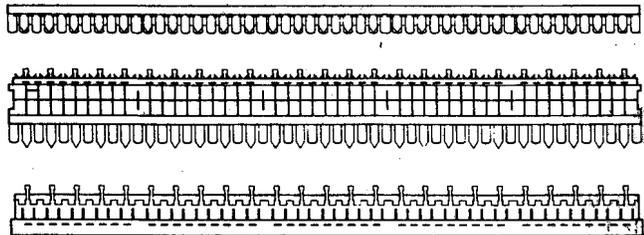

Fig. 2—710-Type Connectors
2.04 710-Type: The 710-type connectors (Fig. 2) consist of a cap, a module, and an index strip. The 710-type connectors are designed for splicing, half-tapping, and bridging 25 pairs of any combination of pulp or polyethylene-insulated copper conductor 17- through 26-gauge only, including filled cable, and 20- through 24-gauge aluminum conductors without stripping insulation. The splicing connector consisting of an index strip, connector module, and cap is used to join two 25-pair groups. Bridging connectors consist of a bridge module and cap. These connectors are used in conjunction with a splicing connector to permit a 3-way splice. Half-tap connectors consist of an index strip. A half-tap connector module, and a cap. They permit joining one cable to through conductors in nonworking or working cable without interruption of service. The cap provides the final wire snubbing when pressed onto the module. The caps used on polyethylene-insulated conductor cable are filled with encapsulant. The 710-type connectors are used on splicing and terminating exchange cable. (See Table A.)